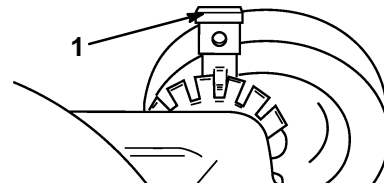

Figure 10
1. To change the cutting height, pull the adjusting lever toward the wheel and move it to the desired position (Fig. 10).